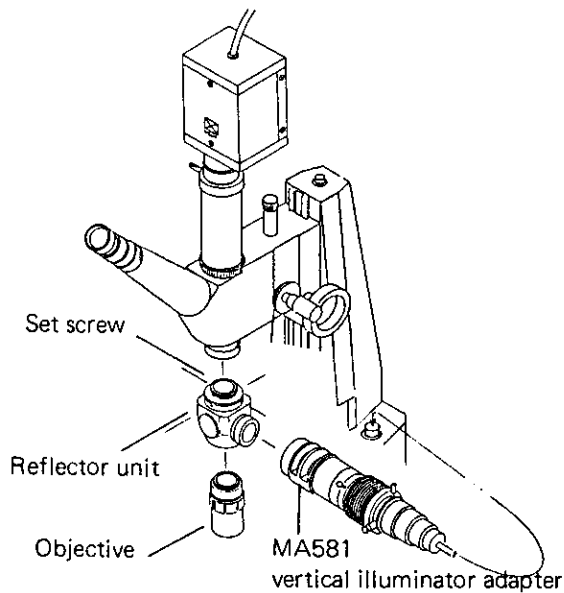

Fig. 19
- c. When using a TV Camera, vertical illumination is required. The **MA581 vertical illuminator adapter** must be used. The MA581 is mounted as follows: (Fig. 19)
- c-2 Adjust the direction of the **reflector unit** to the correct position by loosening the four set screws as seen in the Fig. 19.
- c-3 Attach the **illuminator housing** to the reflector unit with the filter holders facing upward, (see Fig. 19), and tighten the screws.